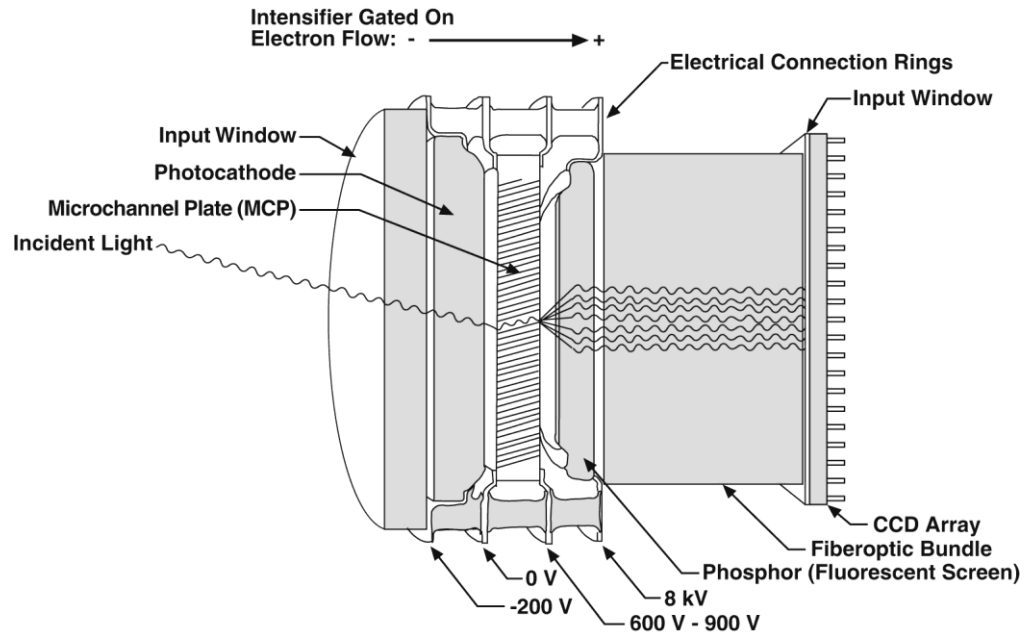

Figure 2. Major Components of the Intensifier-CCD
1. Incident photons pass through the intensifier input window, strike the photocathode, and release electrons. (See Figure 2 above.)